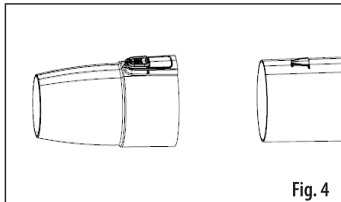

Fig. 4
2. Align the nozzle with the lug on the blower tube (Fig 4).